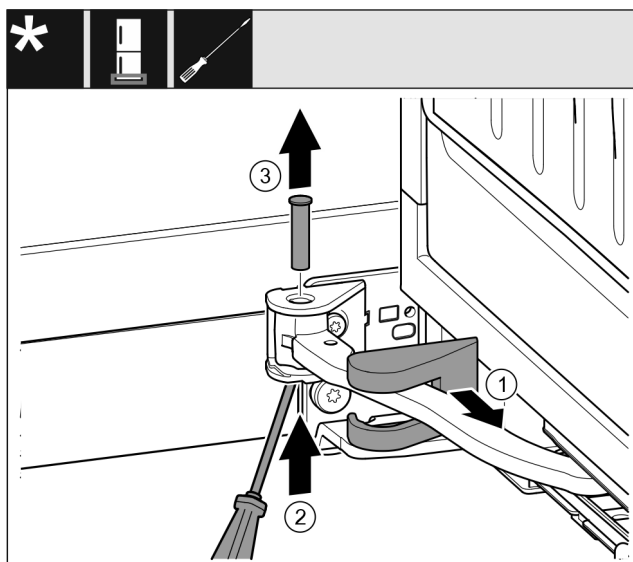

Fig. 17
- ▶ Remove the swap bearing block cover Fig. 17 (1) and slide along the joint.
- ▶ Use a screwdriver to lift the bolt Fig. 17 (2) from below.
- ▶ Pull out the bolt Fig. 17 (3) from above.